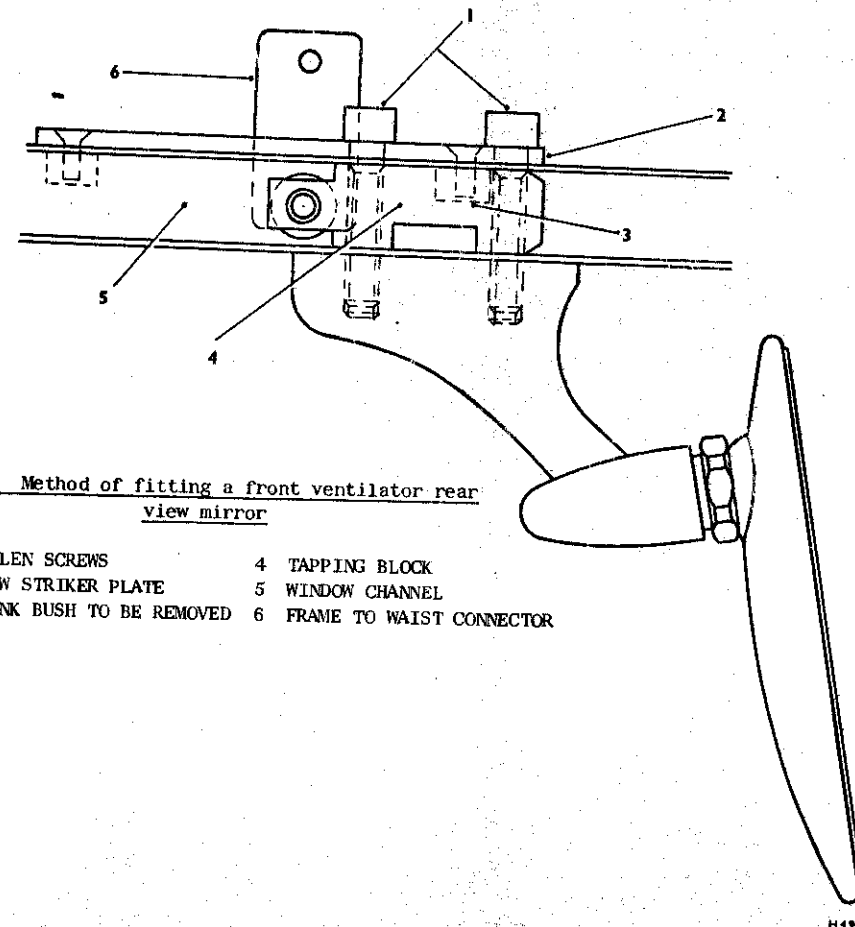

Fig.1 Method of fitting a front ventilator rear view mirror
7. Drill out and remove the rear hank bush (see Fig.1).
8. Position the tapping block in the channel and refit the frame to waist connector; the two assemblies are located by a new setscrew which passes through the connector and channel frame and screws into the front (underside) of the tapping block (see Fig.1).